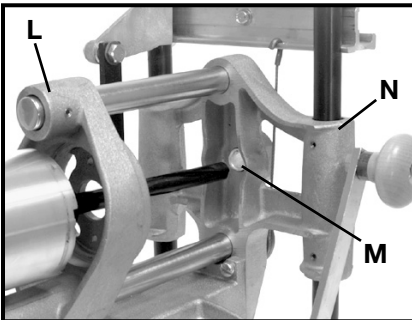
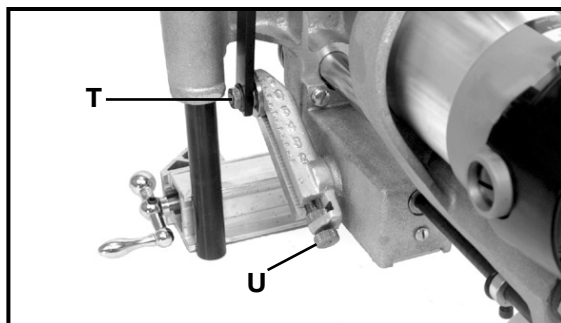
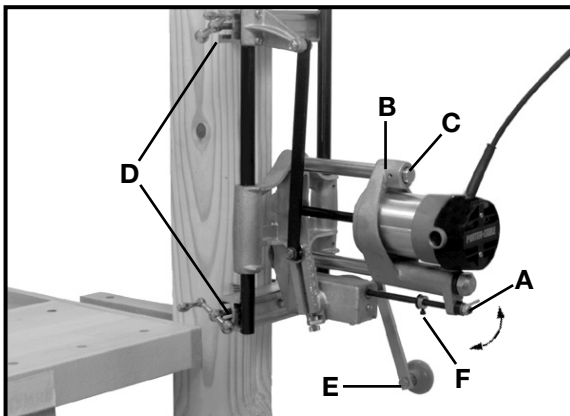

Fig. 3
Fig. 6
Fig. 8
2. Insert splined cutter shaft (see Fig. 3) through motor carriage (L) and into the spiral grooved bushing (M) in the main frame (N). Orient motor as shown in Fig. 8 and seat into motor carriage.
See Fig. 6 to set mortiser for length of cut. Loosen crank pin nut (T) and turn adjusting knob (U) until the correct graduation mark on the slide lines up with the line on crank pin indicating washer. If it is difficult to turn the adjusting knob (U), turn the crank (E) Fig. 8, until most of the tension is relieved. Tighten crank pin nut (T), Fig. 6, securely.
After the mortiser (see Fig. 8) has been set up according to the preceding instructions, it is strongly recommended that a trial cut be made in the following manner to insure fit of lock box.
2. Move feed lever (A) to horizontal position (as shown in Fig. 8) and pull motor carriage (B) to end of guide rod (C).
3. Place the mortiser against edge of the 2" x 6" (50.8 x 152.4 mm) so that the clamps are firmly seated and crank (E) is free to revolve completely around. Tighten clamp handles (D) securely to hold mortiser in position.
4. Move feed lever (A) to vertical position to engage feed mechanism.